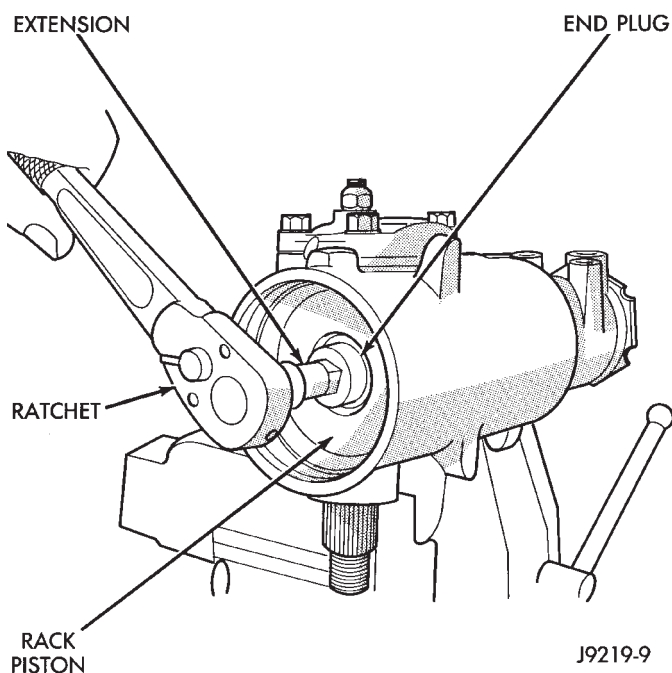

Fig. 19 Rack Piston End Plug
- (1) Remove housing end plug.
- (2) Remove rack piston plug (Fig. 19).
- (3) Remove side cover and pitman shaft.